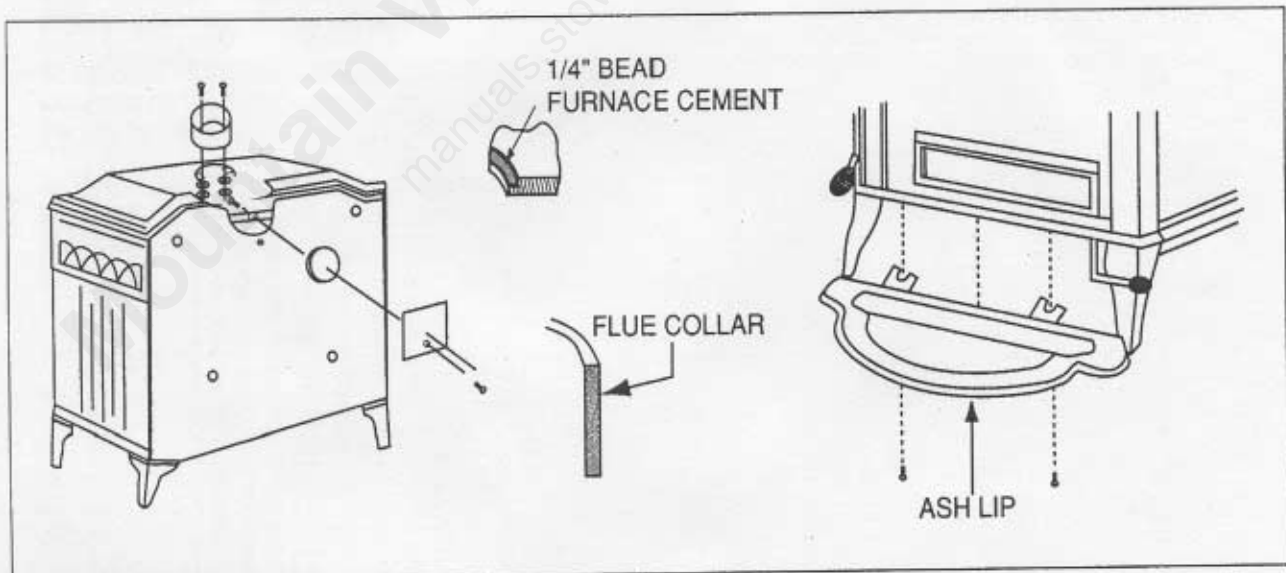

Figure 19
7. The flue collar is located in the box that was inside the Aurora. For a top flue exit, attach the collar to the top of the heater with the bolts and nuts provided. Furnace cement may be used to seal under the collar (See Figure 19). Should a rear flue exit be necessary, you will need to remove the back sheet metal cover plate from the back shield. The cast cover plate is attached to the back of this unit. Remove the cover plate by removing the bolt and fixing bar. See Figure 19. Clean off the old cement from the surface. The flue collar is then fastened to the back of the unit with the bolts and nuts provided as shown in Figure 19. Furnace cement should be used to seal under the collar. Install the cast iron cover plate on the top of the heater in the unused flue opening by placing a bead or furnace cement around the edge and placing the cover in position so it sits firmly against the cast iron. Attach the fixing bar to the cover plate with the bolt and washers provided. See Figure 19 for top and rear cover plate installation.